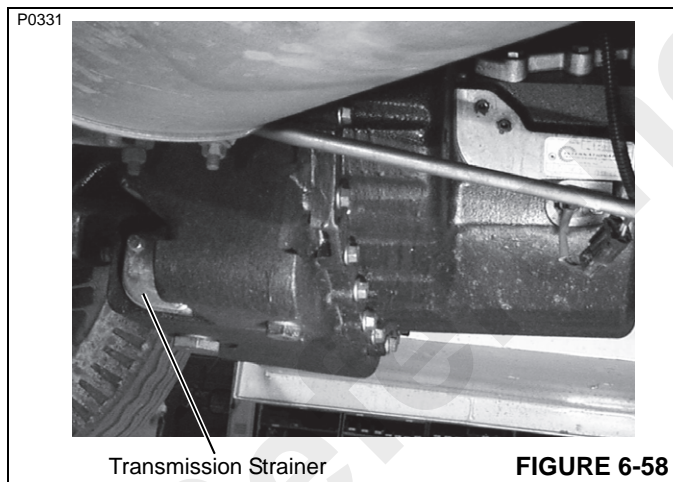

FIGURE 6-58
2. Place suitable container under the strainer (Figure 6-58). Remove the strainer and gasket and drain the oil into the container. Discard the gasket.